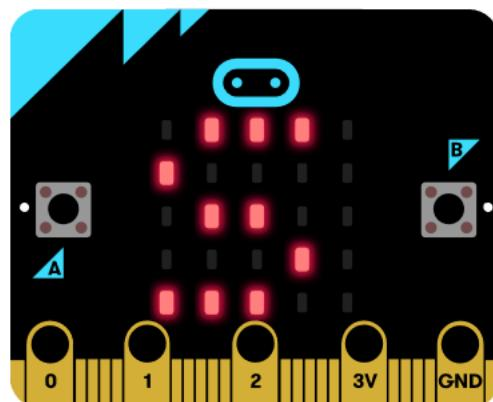

Figure 1.1
6.1 First, we need to download the **microbit-Buletooth-APP-control.hex** to micro:bit, you can see that the micro:bit dot matrix shows an "S" as shown in Figure 1.1, which is the state that Bluetooth is not connected.